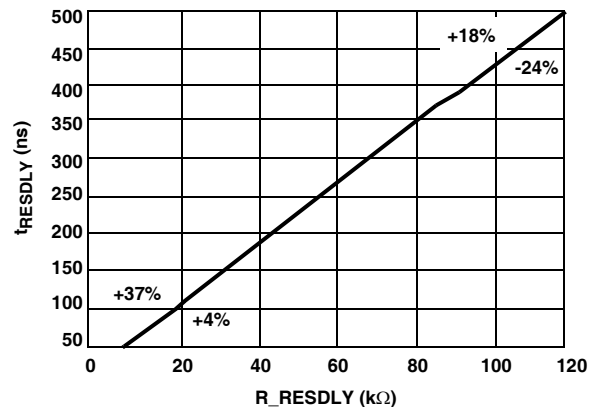

FIGURE 7. R_RESPLY vs RESPLY
- Figure 7 illustrates the relationship of the value of the resistor (\$R_RESPLY\$) and the resonant delay (\$t_{RESPLY}\$). The percentages in the figure are the tolerances at the two endpoints of the curve.